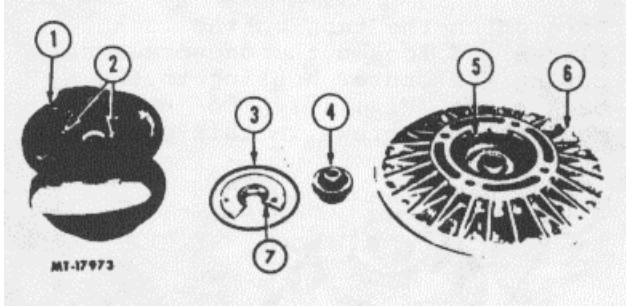

Fig. 18
- a. Remove the seal ring, thrust collar and thrust washer from the center housing (Fig. 18). The thrust spring located in the back plate is replaceable, but should not be removed unless replacement is necessary.
6. Install the thrust collar and washer over the shaft (25), thrust washer first and engage the holes in the washer with the anti-rotating pins (Fig. 18) in the center housing.